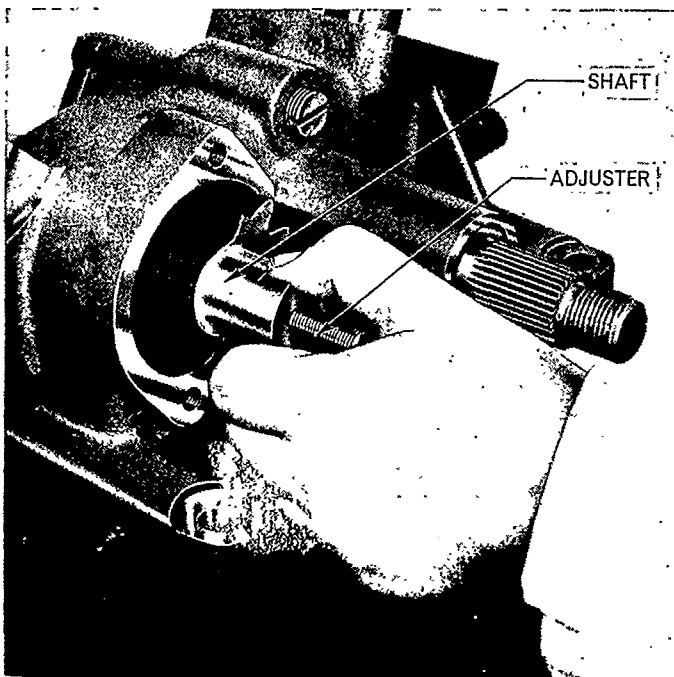

Figure 47
14. Replace the forward rocker shaft in a similar manner to the rear rocker shaft. Make sure that the centre (fourth) tooth on the forward shaft gear is engaged with the centre (fourth) groove in the rear shaft, Figure 47.